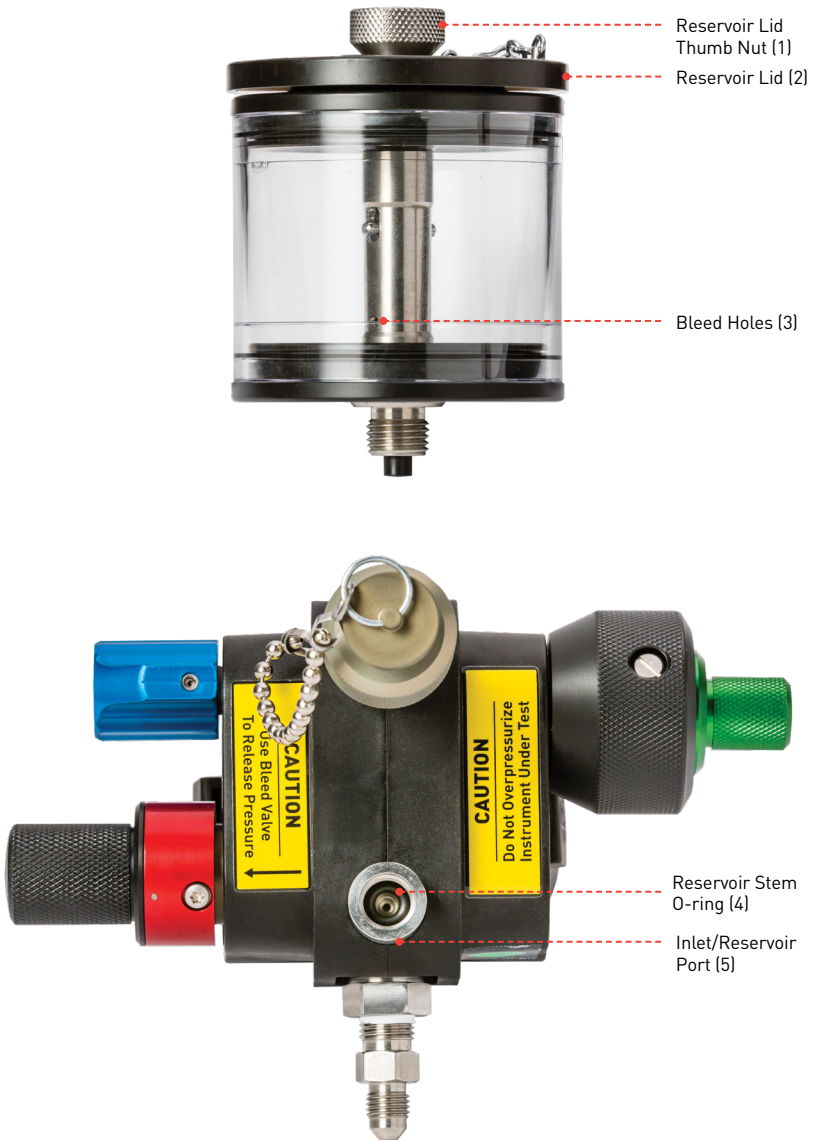

Fig. 3-2 Detail of Hydraulic Reservoir components
- 5) Fill the Hydraulic Reservoir 1/2 to 3/4 full with the appropriate calibration fluid and replace the reservoir lid. Attach the reservoir to the Inlet Reservoir Port on the hand pump. Hold the pump upright during operation to keep the fluid level above the reservoir bleed holes (Fig. 3-2, Item 3).
- 8) Loosen the Reservoir Lid Thumb Nut (Fig 3-2, Item 1) and lift the lid slightly to allow air into the reservoir.
- 9) Squeeze the pump handles while observing air bubbles escaping through the fluid reservoir bleed holes, Fig. 3-2, Item 3. Continue pumping until no air bubbles escape from the bleed holes and sufficient vacuum is generated (about 25 – 27 in-Hg).